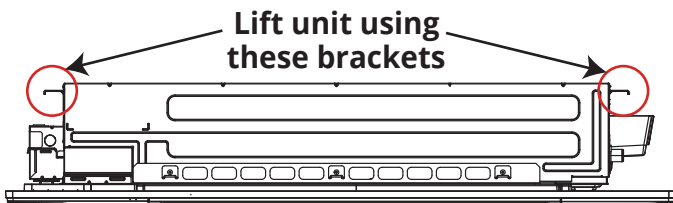

Fig. 5.1
- Unpack and unseal the unit from its packaging. Then, lift and move the unit using the base of the 4 brackets (2 per side) shown in Fig. 5.1 below.